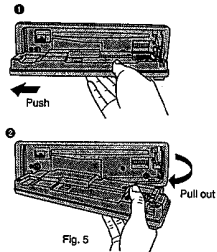

Fig. 5
- Push the face plate to either the right or left, then pull it out toward you. (→ Fig. 5)